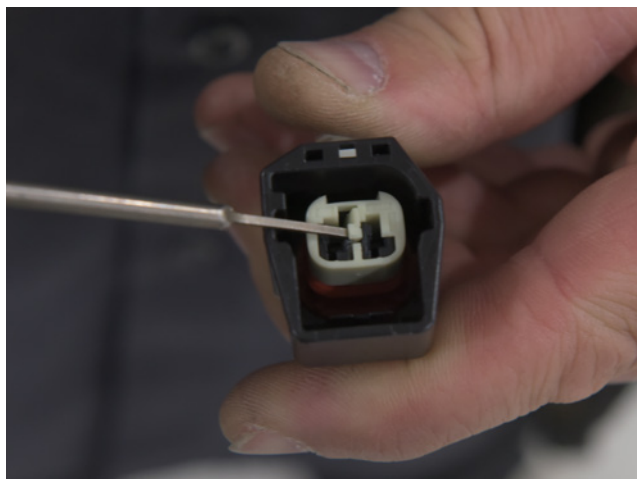

Figure 12
15. Disengage the connector lock. You do not need to completely remove this lock (Fig. 12).